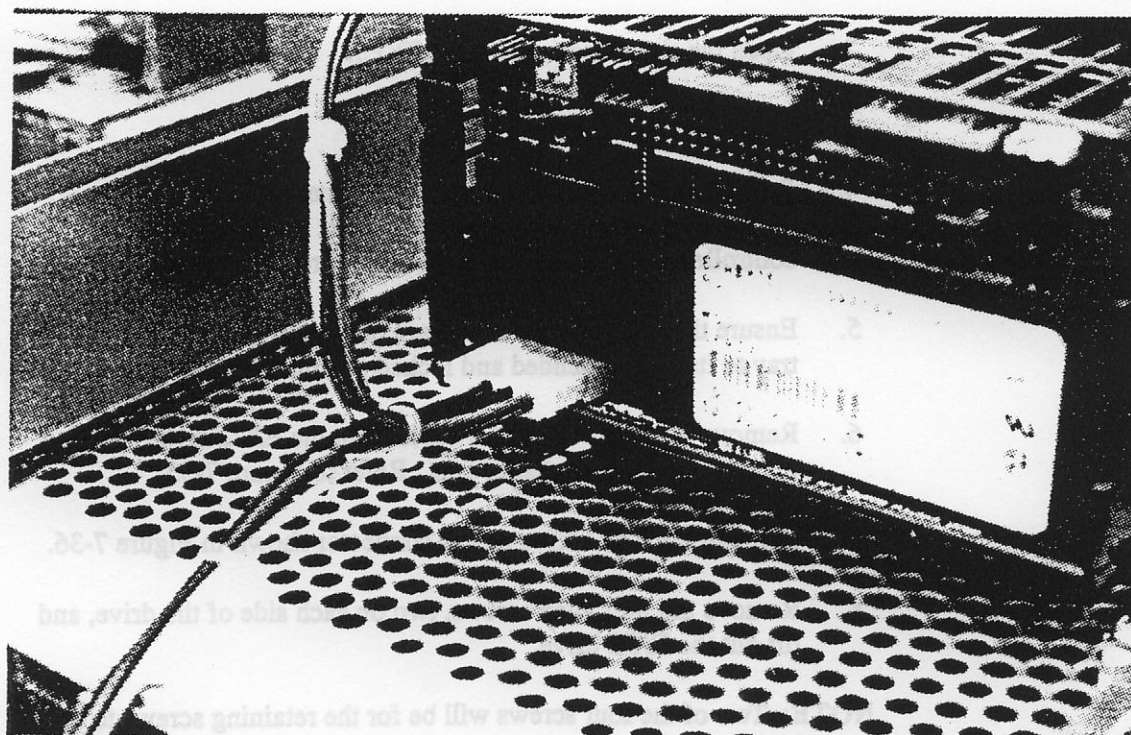

Figure 7-36. EX-2 Drive Power Connector
7. Remove the EX-2 drive power connector shown in Figure 7-36.